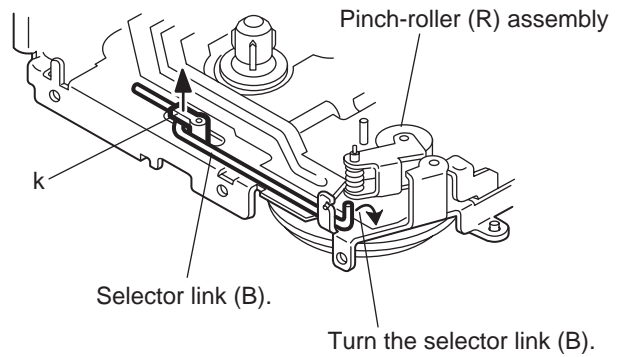

Fig.6
- (1) Raise the part **k** of the reel base assembly slightly and remove the selector link (B) on the front side of the cassette mechanism assembly by turning it as shown in Fig.6.
- (2) Remove the three screws **E** and the one screw **F** on the underside of the cassette mechanism assembly.